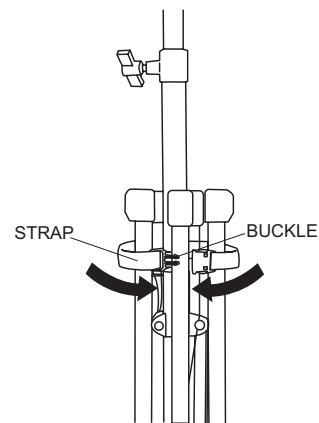

Figure 33. Locking Up Stowed Pentapod
- Once pentapod legs are all in stow position, wrap strap around all five legs and secure by locking the buckle. See Figure 33.